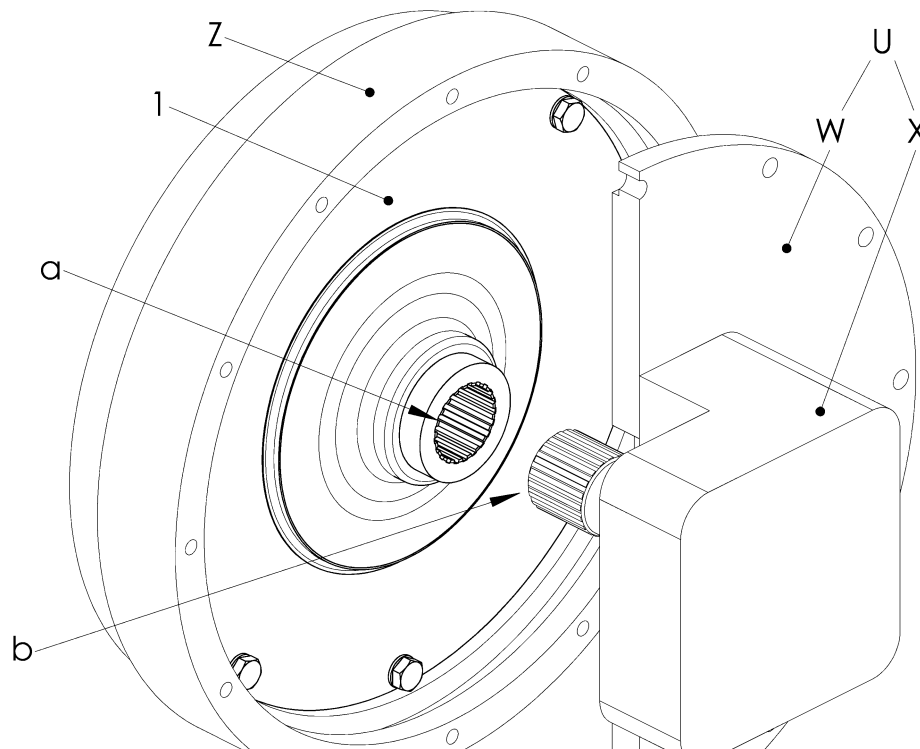

Fig. 5-2 Correctly fitted tothing of design
**See fig. 5-2:**
- Loosen and remove the screws of the connection adapter (W) of the pre-mounted driven side (U) and the flywheel housing (Z).
- Pull the pre-mounted driven side (U) and the flywheel housing (Z) apart.